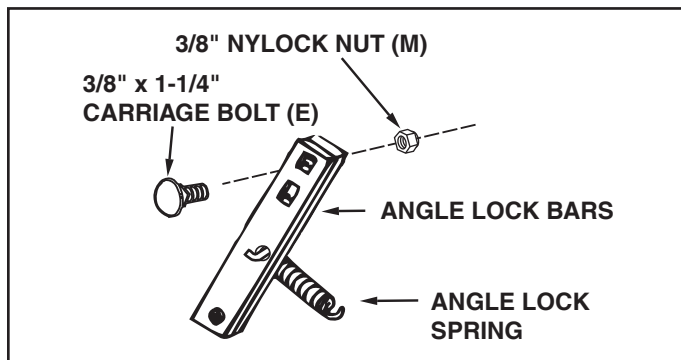

FIGURE 15 (Right Hand Side View)
STEP 1: (SEE FIGURE 15)
- Assemble a 3/8" x 1-1/4" carriage bolt (E) through the square hole in the cable mount bracket and through the square hole in the angle lock bars. (The carriage bolts should face in opposite directions.) Using pliers hold the cable mount bracket in position, angling down towards the L.H. hole in the channel as shown in figure 15. Secure with a 3/8" nylock nut (M). **Tighten.** Refer to the figure for the correct angle for the cable mount bracket.